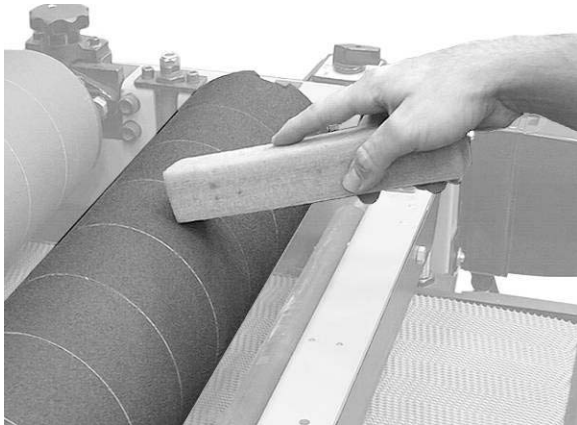

Figure 19
2. Use a 1/8" hex wrench to loosen the *setscrew* (A, Fig. 19) between 1/4 and 1/2 turn.
- With the machine on and the drums rotating, clean sawdust from the abrasive strips with a cleaning stick (Fig. 19). This item is available as an accessory (stock no. 57620025, JS-1 JET-Stick Belt Cleaner).